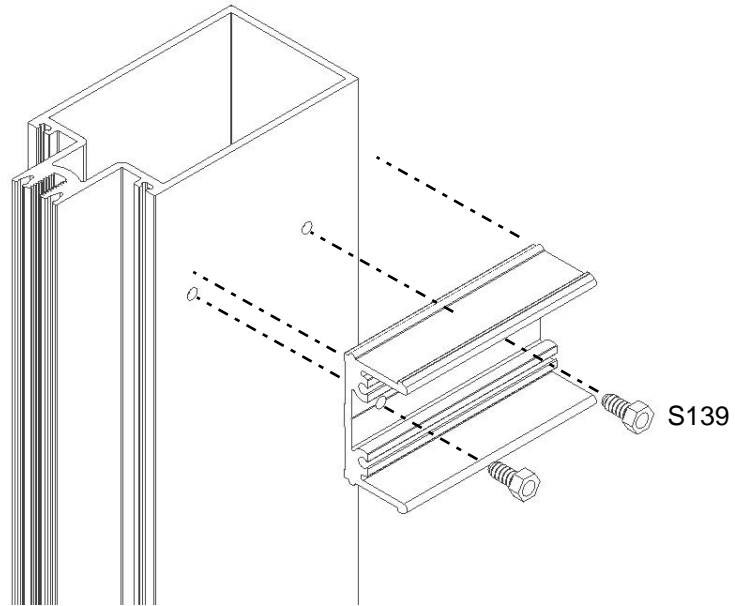

Figure 9: Fasten the shear block to the back member.
- Fasten the shear block, using S139 screws, to the vertical using the previously drilled holes as shown in Figure 9.